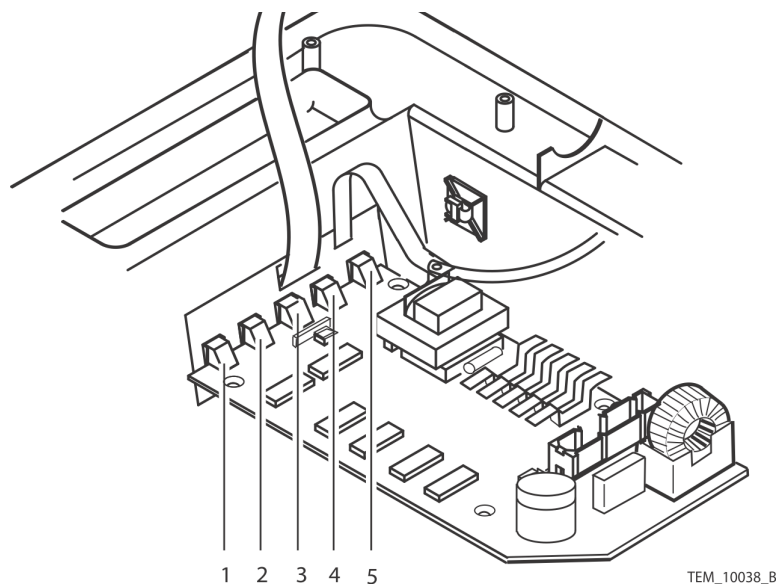

Figure 25. Control PCB Lights
Carefully align the lights on the Control PCB with the control panel key pad push buttons. Failure to do so could damage the key pad or the Control PCB lights. See Figure 25, items 1-5.